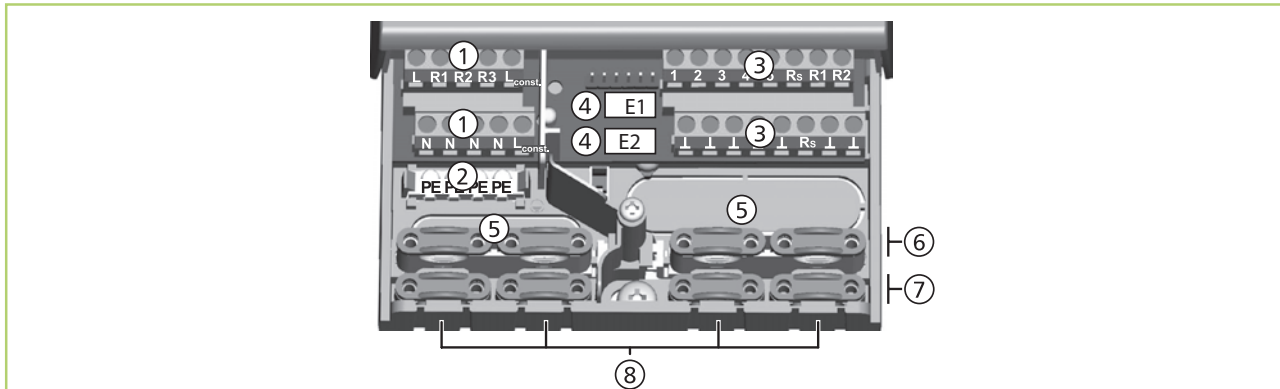

Fig. 29: Connection terminals in the lower part of the controller (terminal cover removed)
1. ➤ Break the cable openings ⑤ (Fig. 29) through using a suitable tool.
1. ➤ Cut the required cable openings ⑧ (Fig. 29) out left and right with a suitable knife and break them through.